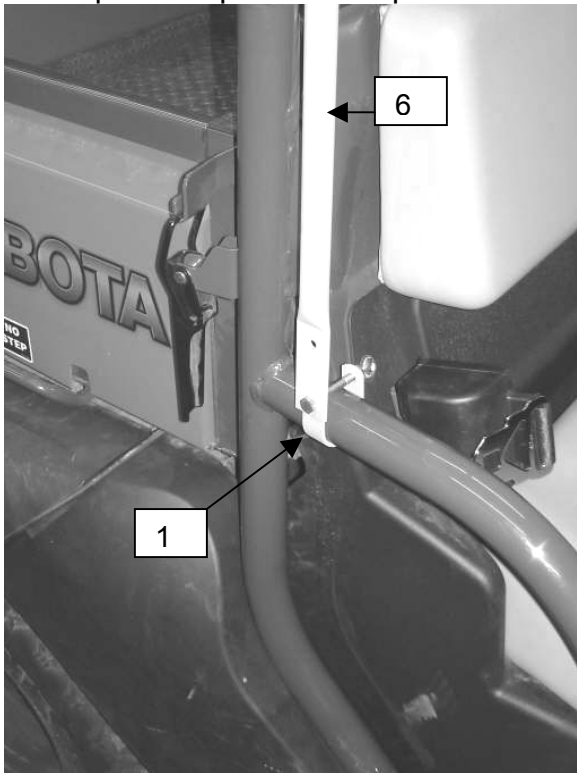

Figure 1B
B. Place a U Camp open end up as shown in Figure 1B. Place the lower end of the post against the clamp. Insert a 1/4" x 2 1/4" bolt through the holes and add a nut. Keep the Post parallel with the rear vertical tube and tighten the clamp and then the bolt. For additional door alignment, this U Clamp may be moved front to rear as needed.